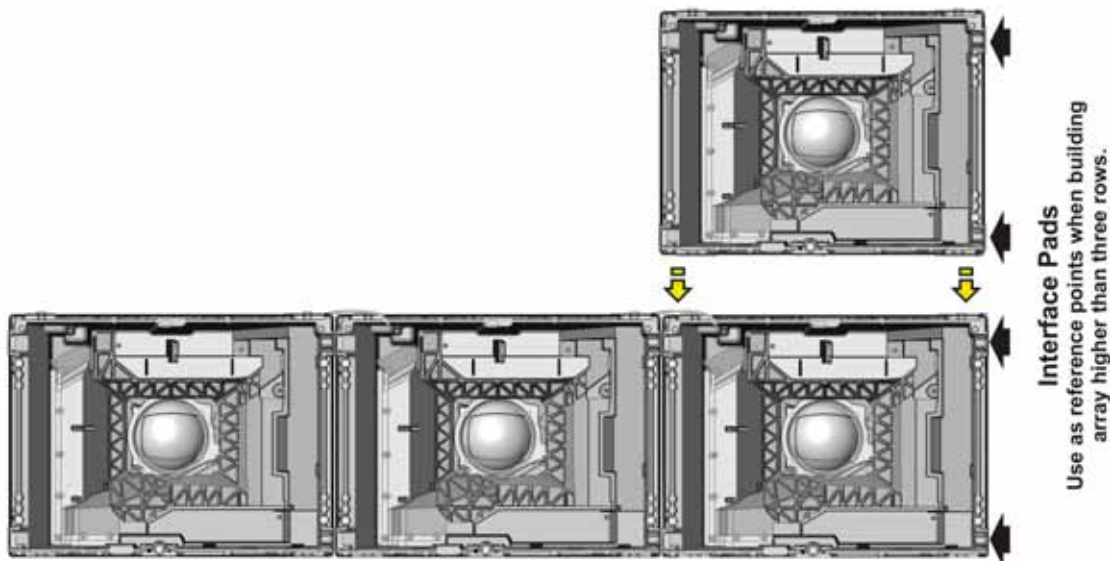

Figure 2-12 Assemble the Second Row
2. Place a tile on top of the first tile in the bottom row (**Figure 2-12**) and push the tile back until the front edge of the tile is lined up with the front edge of the tile below.
7. Place a straight edge on the four interface pads along the side of the column to ensure the top and bottom tiles are straight (**Figure 2-12**). If needed, readjust the top tile or the first row until they are straight.